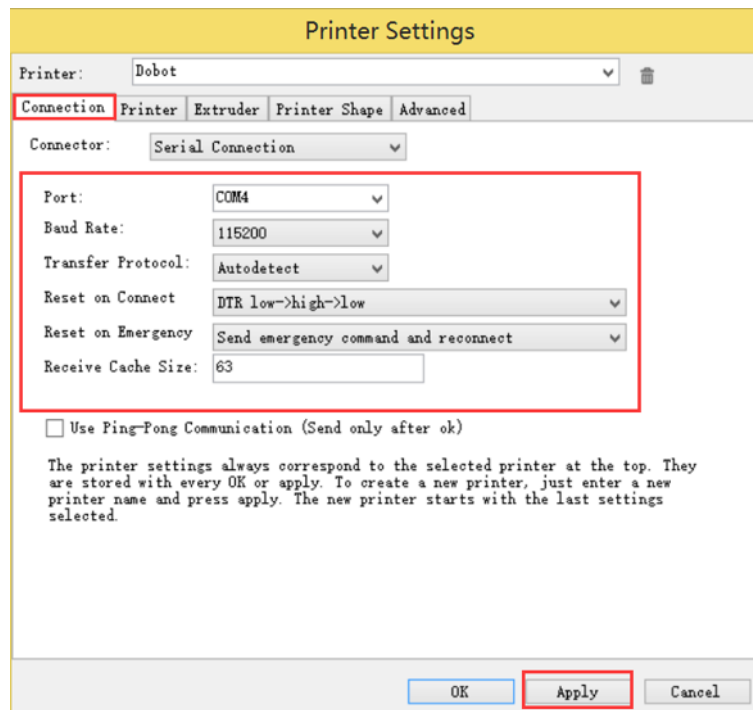

Figure 5.87 Connection setting
2. Set the corresponding parameters on the Connection tab as shown in the red box of Figure 5.87. The other parameters are set by default. Click **Apply**.